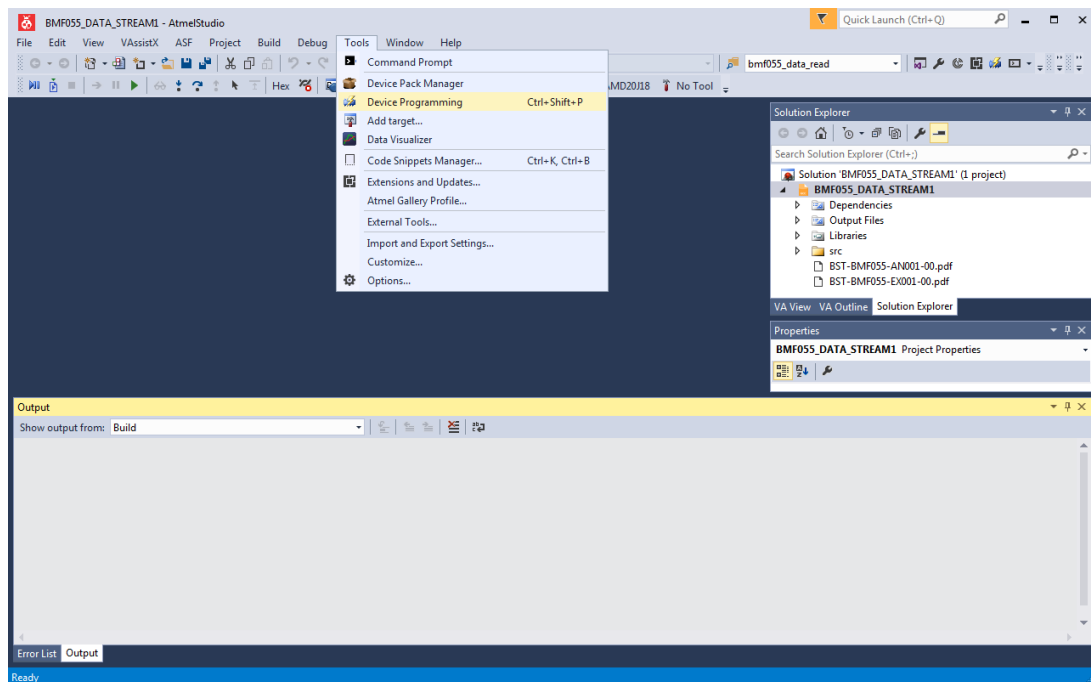

Figure 8 - Atmel Studio, Device Programming
19. In Atmel Studio go to “Tools -> Device Programming” (Figure 8)